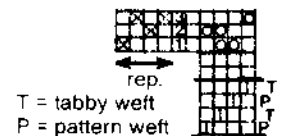

FIGURE 1
**Threading, tie-up, and treadling:** See Fig. 1. Alternate a ground pick and a pick of pattern weft.
For the entire yoke, alternate a ground pick (tabby) with a row of pattern wefts. See Fig. 1. The pattern wefts fill the background as well as the flower design. To weave the pattern, open the pattern shed as shown in Fig. 1 and lift the warp